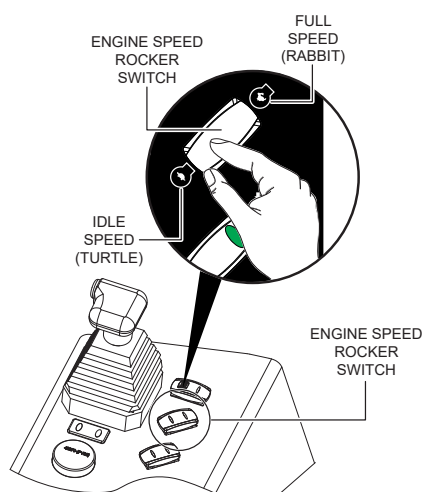

Figure 24. Engine Speed Rocker Switch
1. Press down on the right side of the **engine speed rocker switch** (*rabbit*) until the desired engine speed is achieved (Figure 24).